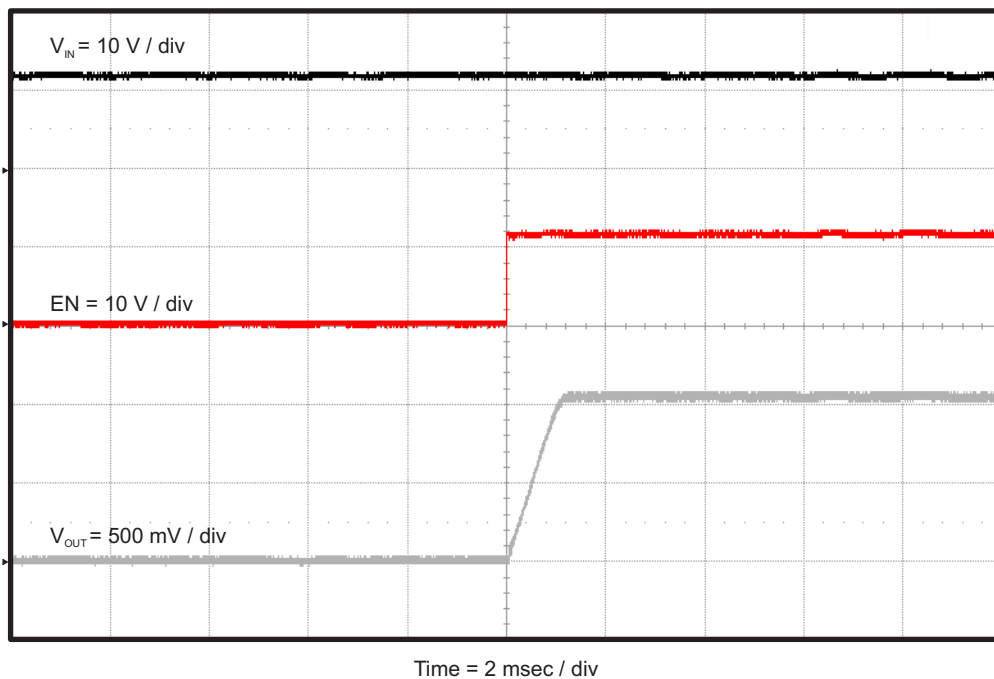

Figure 11. TPS562200EVM-601 Start-Up Relative to EN
The TPS562200EVM-601 start-up waveform relative to enable (EN) is shown in Figure 11. Load = 1 Ω resistive.